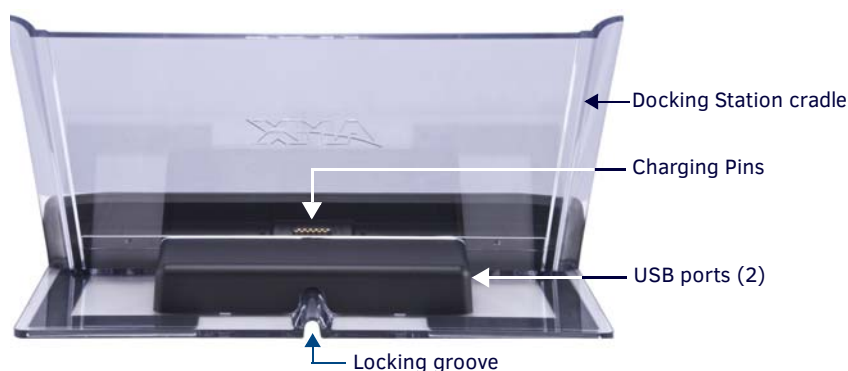

FIG. 8 MVP-TDS-9-GW Table Docking Station - Rear
2. To prevent wear on the power supply cord and assure that the device's base is in full contact with the table surface, press the cord into the locking groove running across the bottom of the device (FIG. 8).
4. Place the touch panel in the Docking Station cradle, guiding it into place with the locking grooves on each side of the cradle (FIG. 8). When fully seated, the touch panel's Docking Station connector should be in contact with the Docking Station's charger pins.
To recharge the MVP-9000i, slide the device into the Table Docking Station cradle bottom-first and make sure the device is fully seated in the Docking Station. The charger pins in the bottom of the cradle (FIG. 8) must be in contact with the connector on the bottom of the MVP-9000i for it to start recharging. The MVP panel will stop recharging automatically once the battery has achieved its maximum charge.
The MVP-TDS-9 has two USB ports on the left of the device behind the Docking Station cradle (FIG. 8). These ports may be used for transferring files to the MVP-9000i, as well as ports for USB-powered accessories.